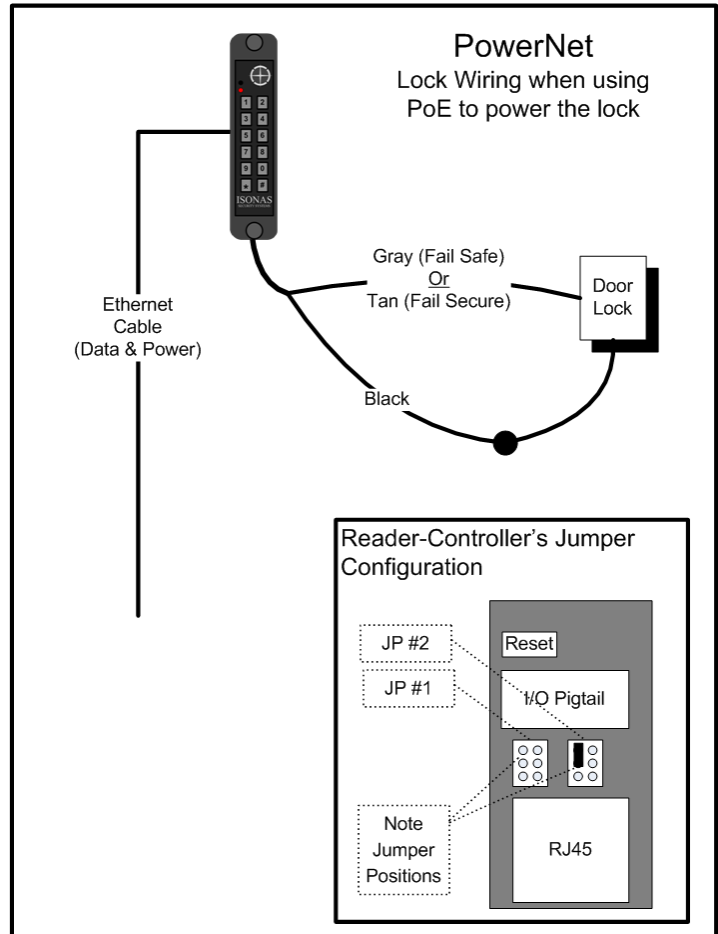

Figure 8
Generic Wiring, using PoE: See **Figure 8**
- a. Otherwise you may supply 12VDC power to the lock relay by using the jumper pins as shown in **Figure 8**.